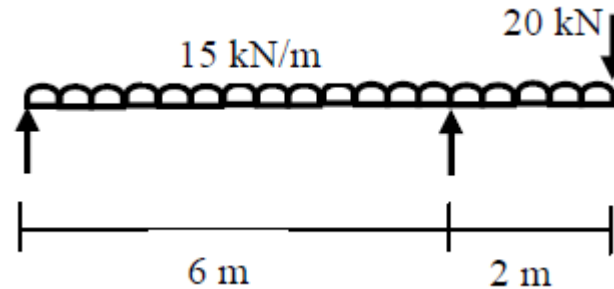

Fig.4
- (b) Draw S.F and B.M for figure 4. **07**